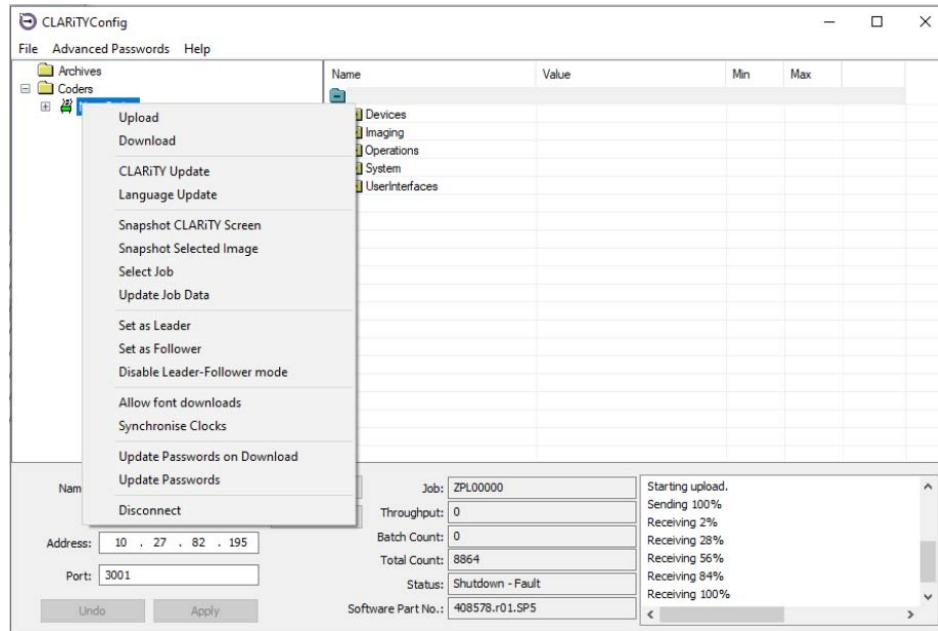

Figure 8-9: CLARiTY Config - Follower Setup
- 2 Right click on the 'New Printer' icon when the icon turns 'green' and Select 'Set as Follower', from the list as shown in Figure 8-9.